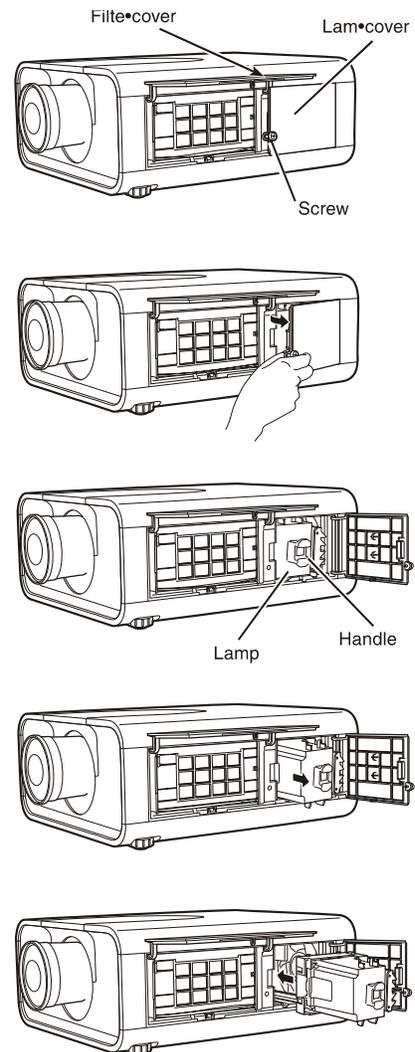

Figure 2 Lamp Replacement
3. Loosen the screw and open then Lamp Cover (see Figure 2).